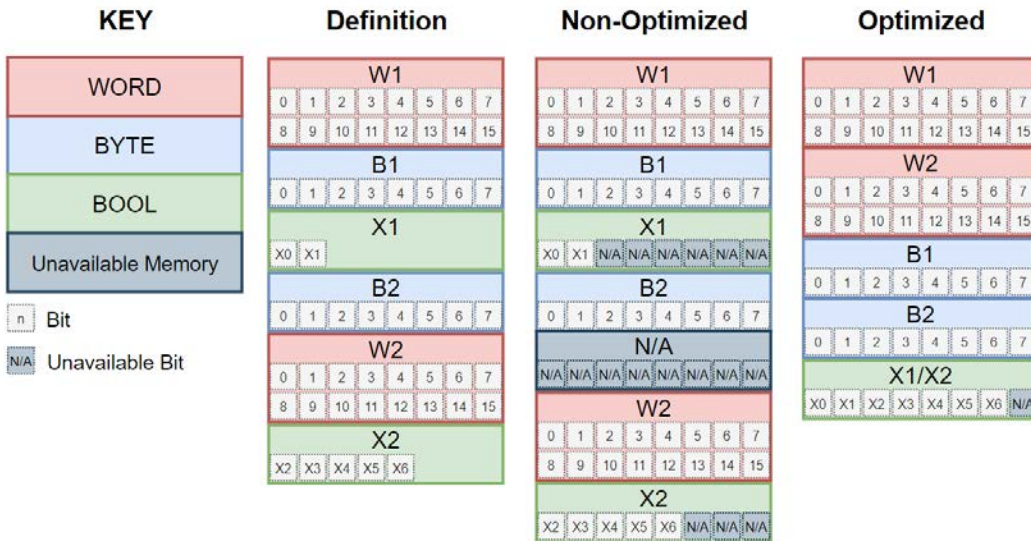

Figure 2.19 – Differences between non-optimized and optimized data
*Figure 2.19* shows that optimized data does not have as many reserved or not available areas in the data. Here, the order of the data has been reorganized to optimize the amount of space it takes up in the PLC.